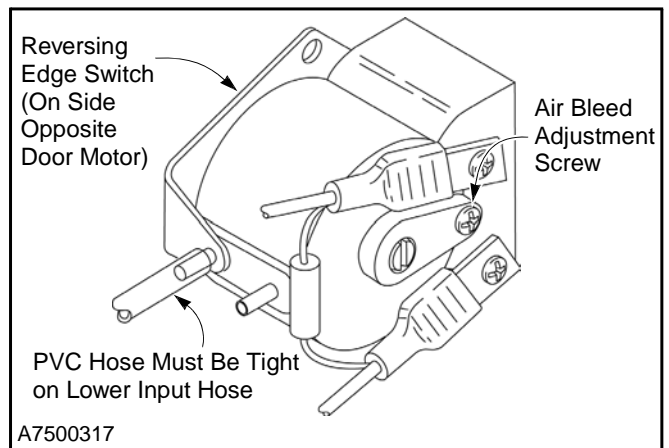

Figure 62
3. Make sure the clear PVC hose is in tight contact with the air input post so that air leakage cannot occur and vibration will not cause the hose to fall off. (See Figure 62.)